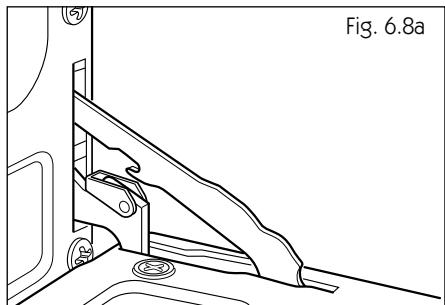
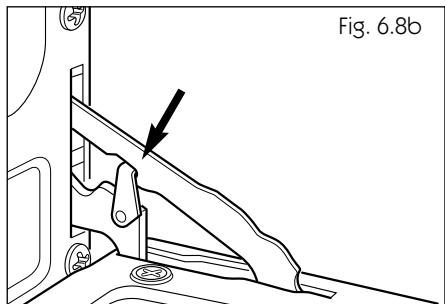

Fig. 6.8a
Fig. 6.8b
- The swivel retainers of the rh and lh hinges (fig. 6.8a) are hooked onto the metal bar above them (fig. 6.8b).